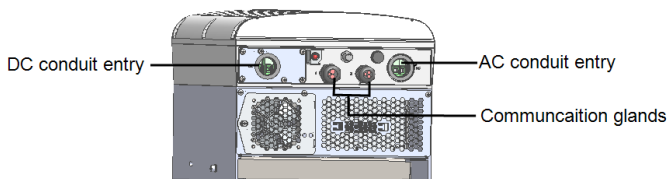

Figure 51: Primary Unit interface
- 1. Connect the DC, as follows, see *Figure 51*: